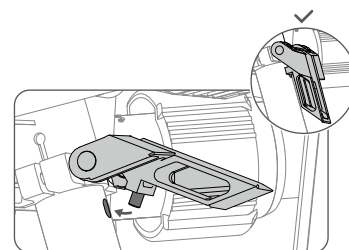

Fig.1
5. Ensure that the landing gears are mounted firmly and check the pins to confirm that they are inserted fully and tightly. (Fig. 1)